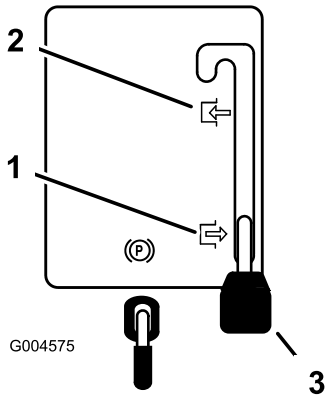

Figure 8
2. Shift the blade control (PTO) lever to Engage (Figure 8).
2. Shift the blade control (PTO) lever to Disengage (Figure 8).
4. Shift the blade control (PTO) lever to Disengage (Figure 8).